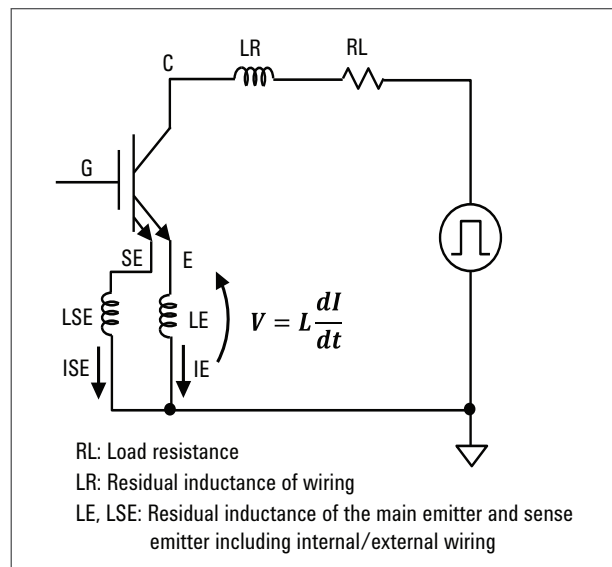

FIGURE 7. Residual inductances at each terminal
This discrepancy can be explained by considering the residual inductances of the wires at the emitter and sense emitter terminals (including the measurement cables). The residual inductances of the wires at the emitter (LE) and the sense emitter (LSE) terminals shown in figure 7 are roughly comparable, because wiring inductance is primarily determined by the total wire length.